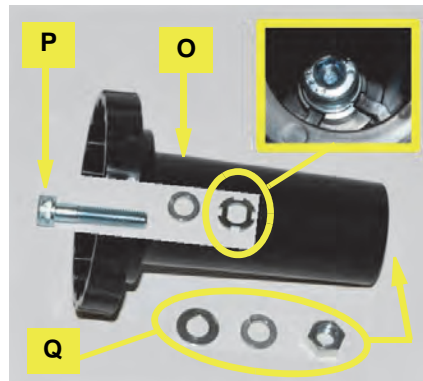

Figure 7a: Assembling the telescoping actuator
- a. Insert hardware **P** into the telescoping actuator **O**. The slotted washer is last on the cap screw and its slots must align with the ribs in the base of the actuator (Figure 7a with inset).
Add hardware **Q** onto **P**'s screw at the bottom of the actuator. Tighten to **15 N·m (133 in-lb) only** (Figure 7a). **DO NOT OVERTIGHTEN**